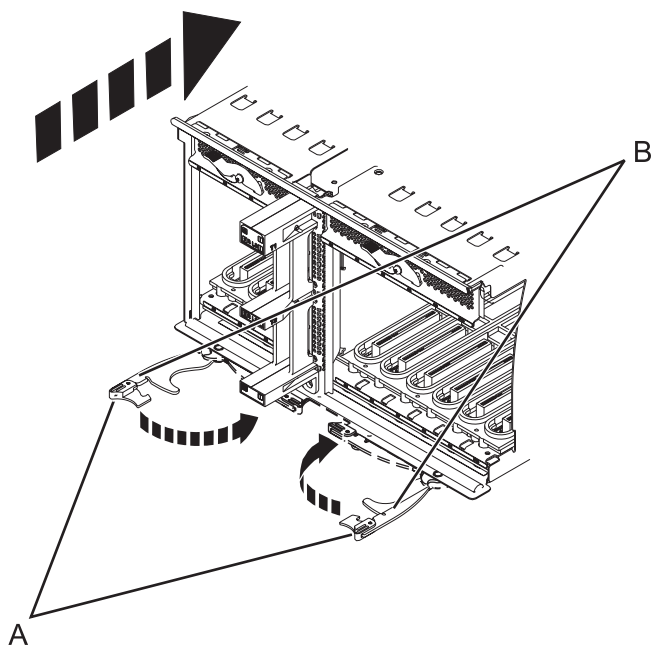

Figure 61. Install the I/O system board on a rack-mounted model
- Insert the I/O system board firmly into the server, as shown in Figure 61 on page 78.
- Secure the I/O system board with the locking tabs (A), as shown in Figure 61 on page 78.